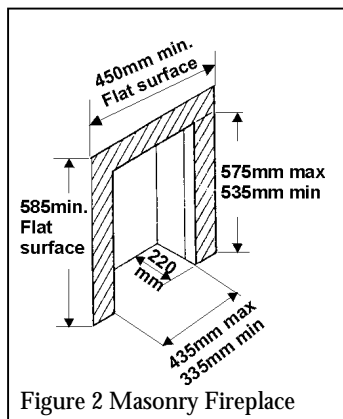

Figure 2 Masonry Fireplace
2.11.1 A masonry chimney with a minimum diameter of 175mm free from obstruction. Note the flat surface area requirement (Figure 2). A masonry chimney having a correctly installed flue liner to BS715 and with a minimum flue diameter of 125mm is also acceptable. Chair brick removal may not be required providing at least 50mm clearance is available from the flue outlet to any fireplace component.